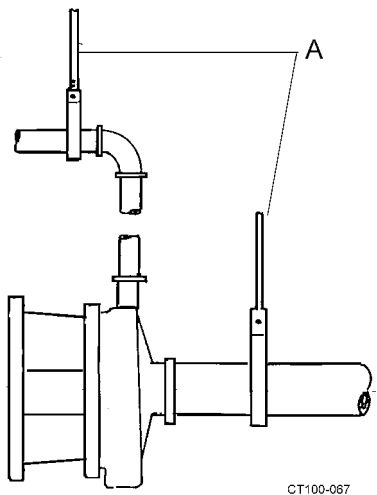

Figure 14 - Pipe Supports
- If an expansion joint is used, install a pipe support/anchor between the joint and the pump (Figure 14, item A).